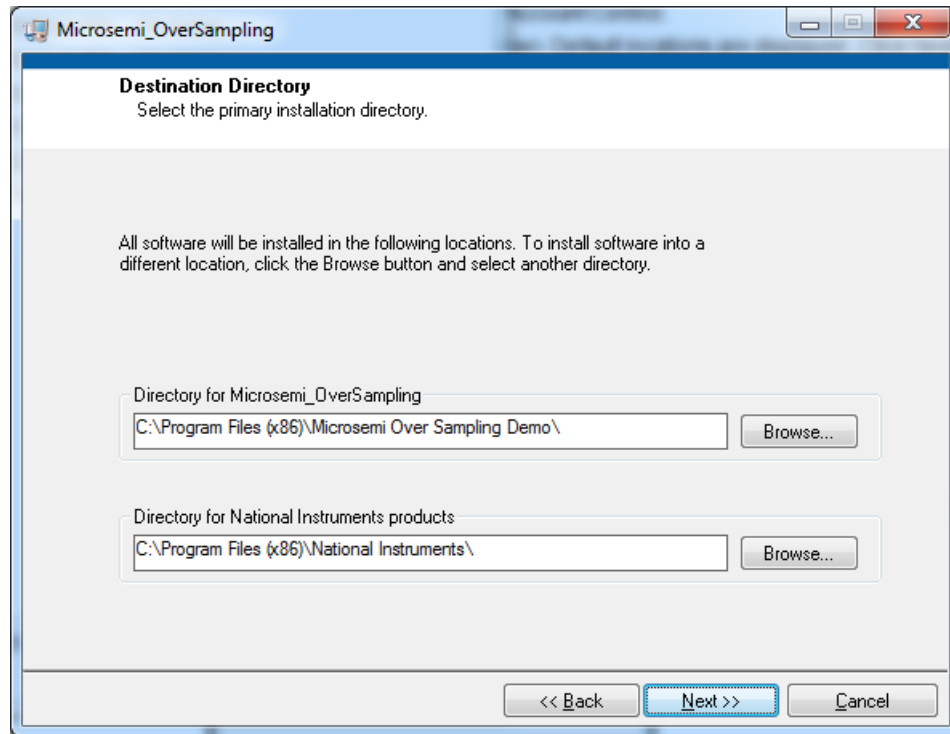

Figure 12 • GUI Setup Window
4. Setup window appears as shown in Figure 12. Default locations are displayed. Click **Next**.